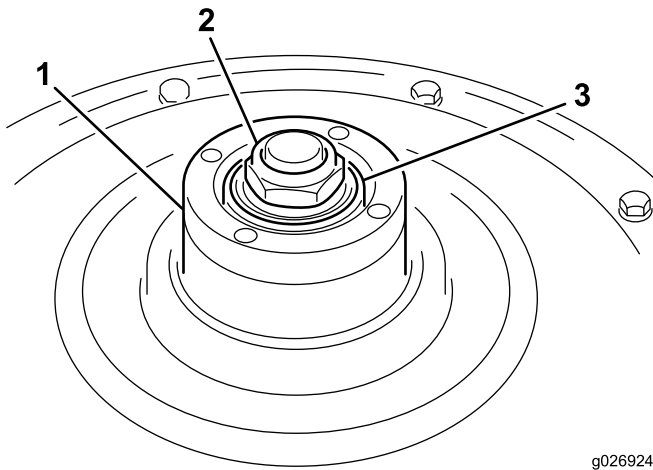

Figure 2
1. Rotate the wheel hub (Figure 2) to check the bearing adjustment. A slight drag must be felt when the hub is rotated. If drag is not evident, tighten the wheel hub nut (Figure 2) until slight drag is felt when the hub is rotated.
2. Check the O-ring to assure it is not damaged, and make sure it is seated in the inside diameter of wheel hub (Figure 2).